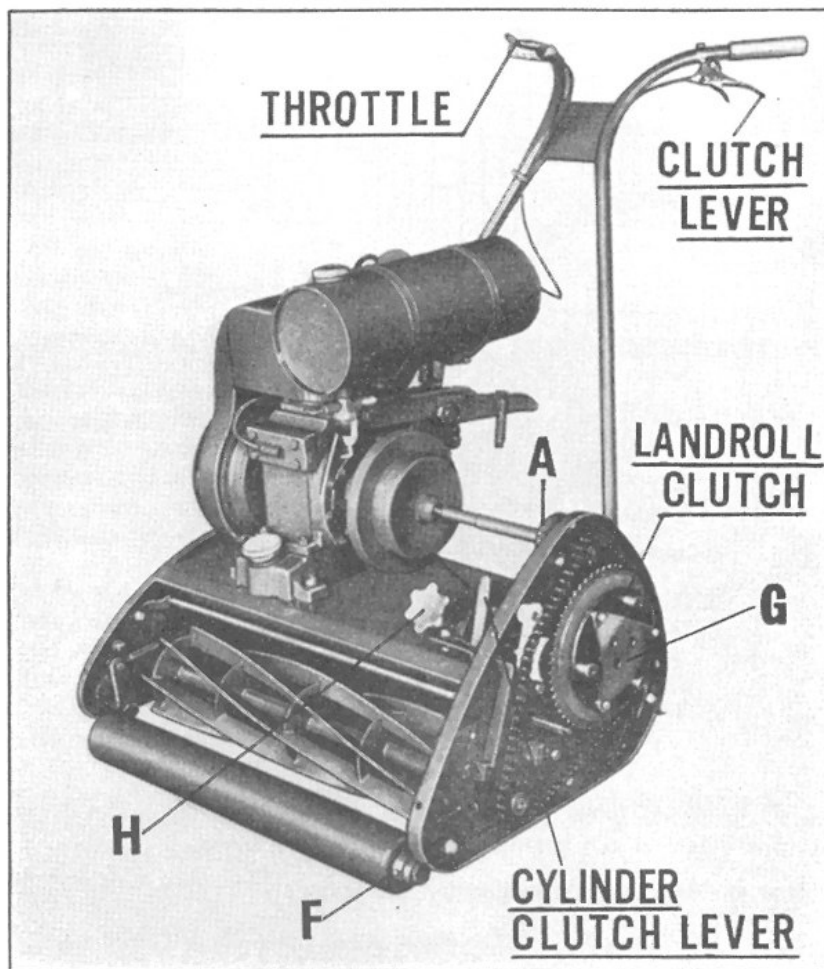
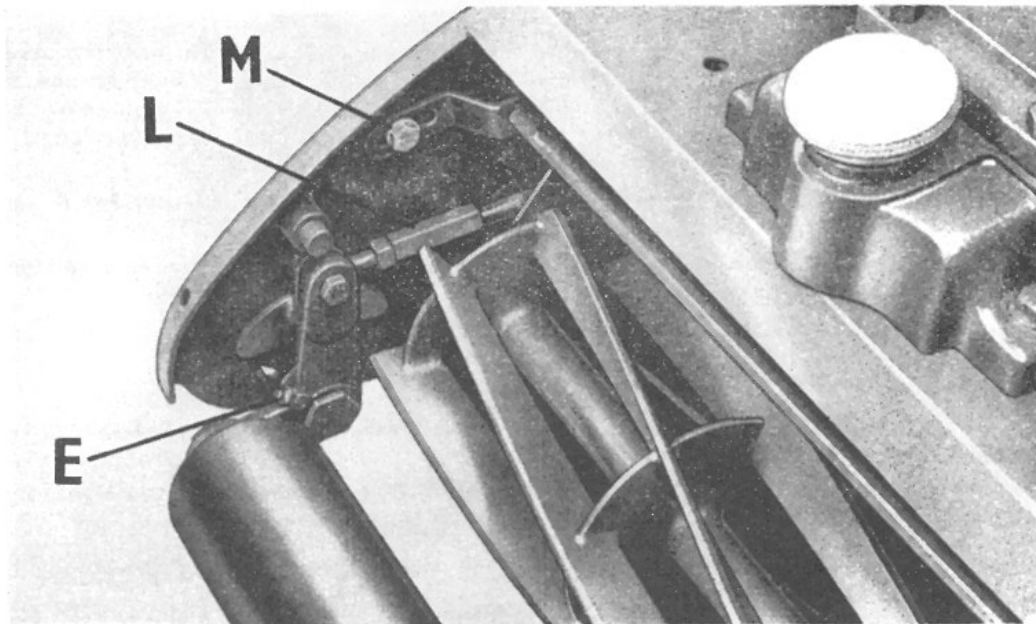

Fig. 3.
Fig. 5.
1. Clutch shaft bearing through nipple A. (Fig. 3, page 6).
5. Front roll carriages through nipples E. (Fig. 5, page 8).
7. Land roll clutch through nipple G in outerplate. (Fig. 3, page 6). Chain case must be removed to expose this oiling point. (Fig. 3, page 6).
This is regulated by the hand nut H (see Fig. 3, page 6) which, if turned in a clockwise direction, raises the cutters. Should the front roller get out of alignment with the main roller, it can be corrected by adjusting the right hand bearing bracket by means of nut "L" (see Fig. 5, page 8), after slackening the clamping bolt. Any adjustment of height of cut can be firmly locked.
This indicates that the concave needs adjusting. First make sure that the base of the concave registers correctly with the back edge of the bottom block. Now slacken the setscrews "M" (fig. 5) which hold the concave hinge brackets to the side frames and move the concave forward until there is approximately 1/16 in. clearance between the concave and the cutting cylinder on the centre line. Retighten the nuts when this adjustment has been made.